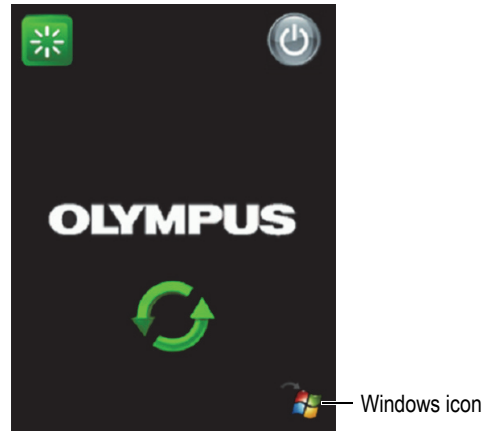

Figure G-5 DELTA Shutdown screen
3. Tap Exit () to exit the system software and display the Shutdown screen (see Figure G-5 on page 179).